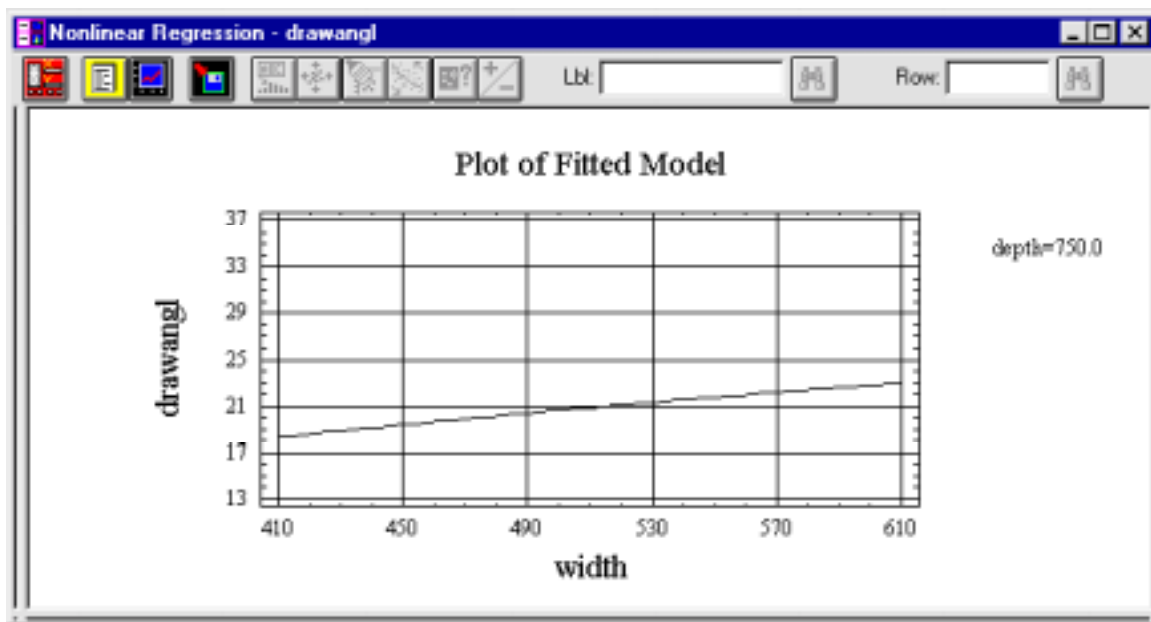

Figure 5-8. Plot of Fitted Model
The Plot of Fitted Model option displays a plot of the fitted function versus the chosen independent variable (see Figure 5-8). A line is drawn over the range of the chosen independent variable (X). If there is only one independent variable, the